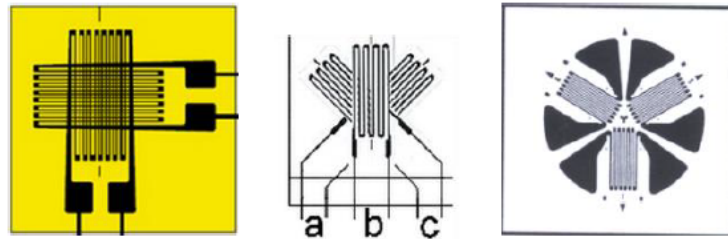

Fig. 7.112: Sketch of different rosette types
Fig. 7.112 shows sketches of different rosette types: left: 90° (T), middle: 45°, right: 120° rosette.